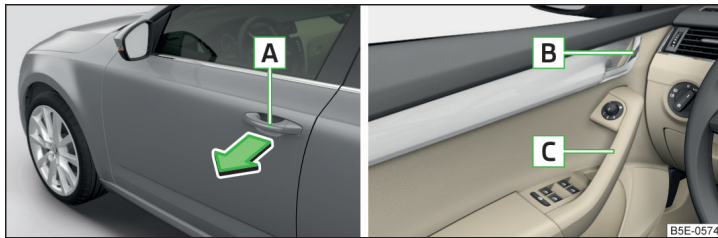

Fig. 53 Door handle/door opening lever
- ▶ To **open from outside**, unlock the vehicle and pull the door handle in the direction of arrow » Fig. 53.